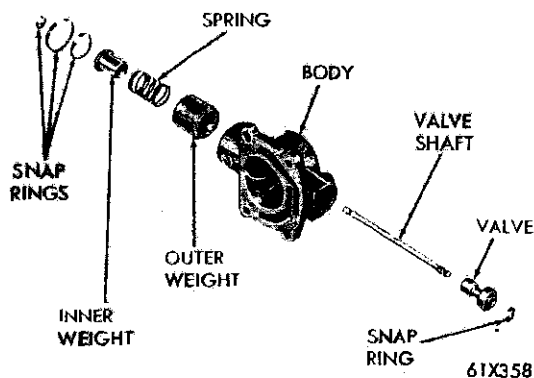

Fig. 38—Governor Assembly (Disassembled View)
(4) Remove the snap ring from inside the governor weight, remove the inner weight and spring from the outer weight. Figure 38 shows a disassembled view of the governor assembly.
(5) Remove the snap ring from behind the governor body, then slide the body and support assembly off the output shaft. If necessary remove four bolts and separate the governor from the support.